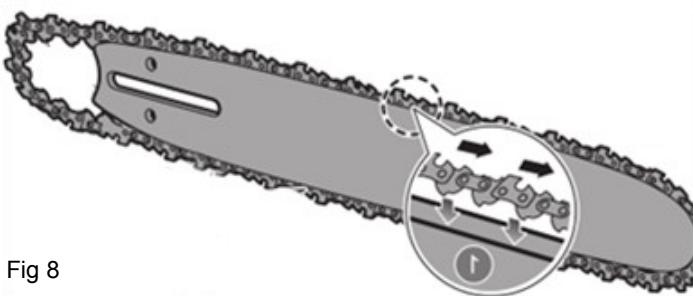

Fig 8
- Position the chain so there is a loop at the back of the bar. (Fig 8)